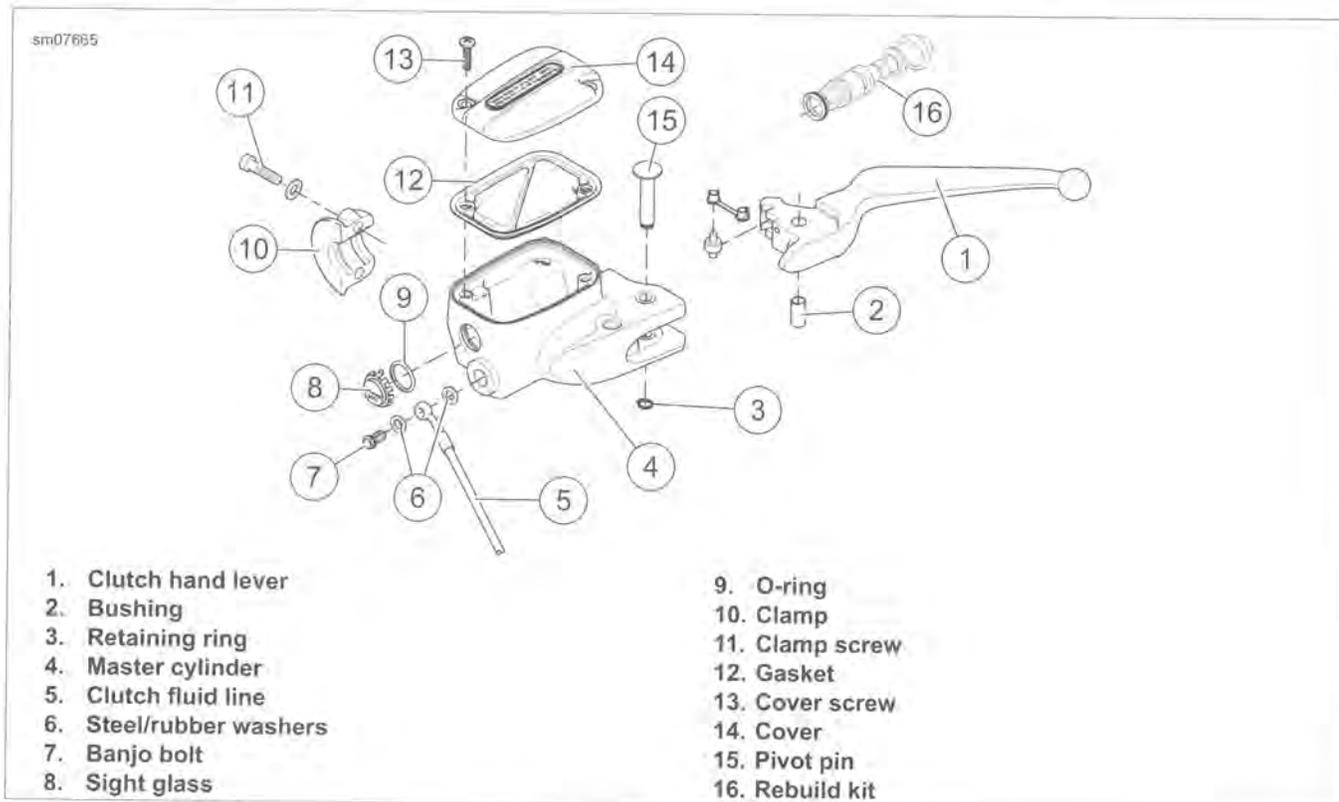

Figure 2-89. Clutch Master Cylinder Assembly
1. See Figure 2-89. Loosen cover screws (13) to relieve pressure in master cylinder/reservoir.